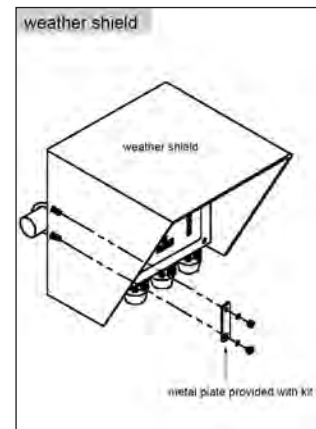

Figure 3.9
- At step 3 (surface mount) or step 4 (rail mount), attach the weather shield with the metal plate installed securely to the surface or rail. Figure 3.9 shows the weather shield installed for a rail mounted 5400.